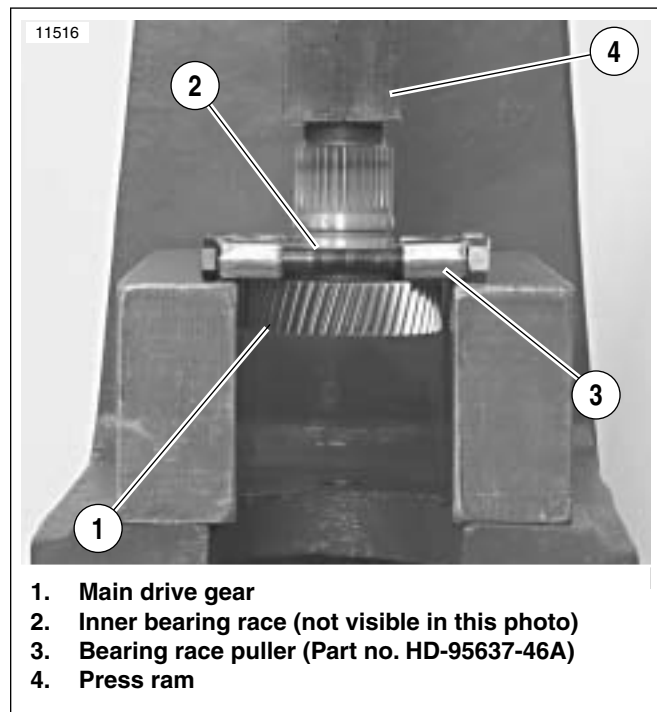

Figure 6-70. Removing Inner Bearing Race From Main Drive Gear
4. See Figure 6-70. Attach BEARING RACE PULLER (Part No. 95637-46A) (3) to inner race (2) on main drive gear (1).